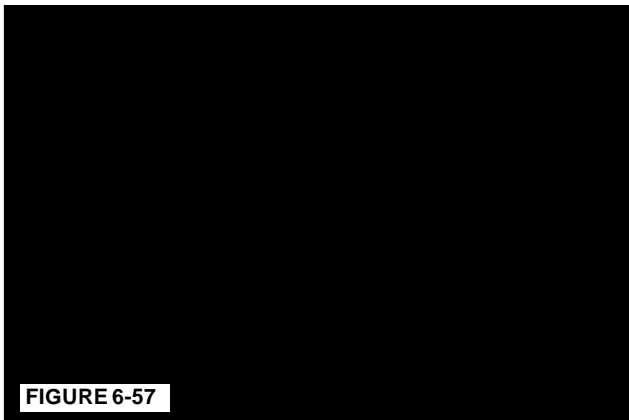
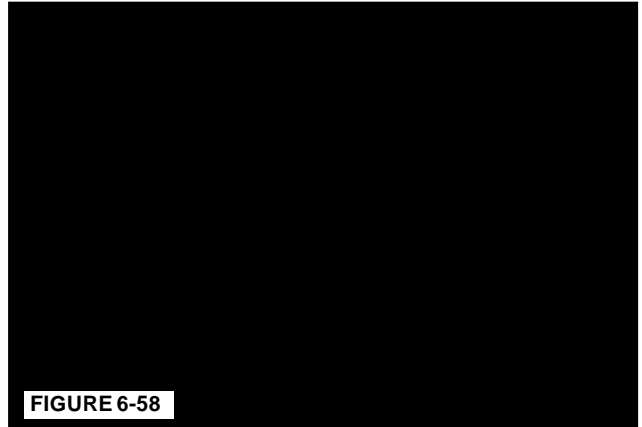
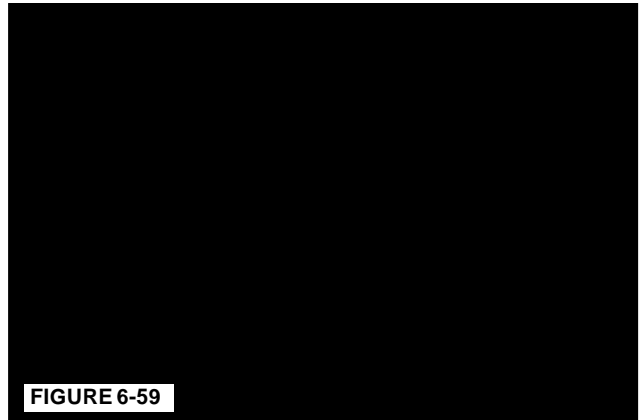

FIGURE 6-57
FIGURE 6-58
FIGURE 6-59
- b. For two-bearing generators, insert two guide pins in the rear bearing lock holes. (Figure 6-57.) Fill the grease cavity of the drive end bracket 1/3 to 1/2 full of Chevron SRI (or equivalent) grease. Assemble all grease plugs in the bracket. Mount the bracket on the bearing and guide the bearing lock pins through the bracket holes. (Figure 6-58.) Align the drive end bracket and mount with the capscrews. (Figure 6-59.) Insert two capscrews with lockwashers into the bearing lock and tighten. Remove the guide pins and replace with the remaining two capscrews with lock washers. Torque bearing cap screws to 25 lb-ft (34 N-m). Torque bracket mounting capscrews per specifications given in section 12.